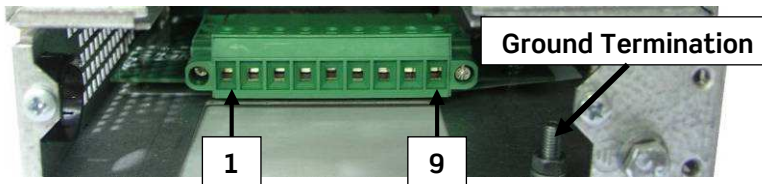
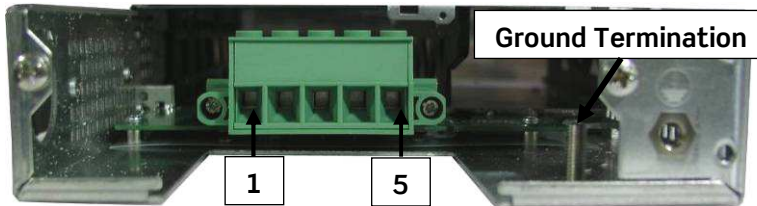

Figure 8 - Individual Feed Connector (Cover Removed)
Figure 9 - Dual Feed Connector (Cover Removed)
6) If necessary, terminate additional safety wires to the shelf ground termination stud located to the right of the connector (see Figure 8 and Figure 9).